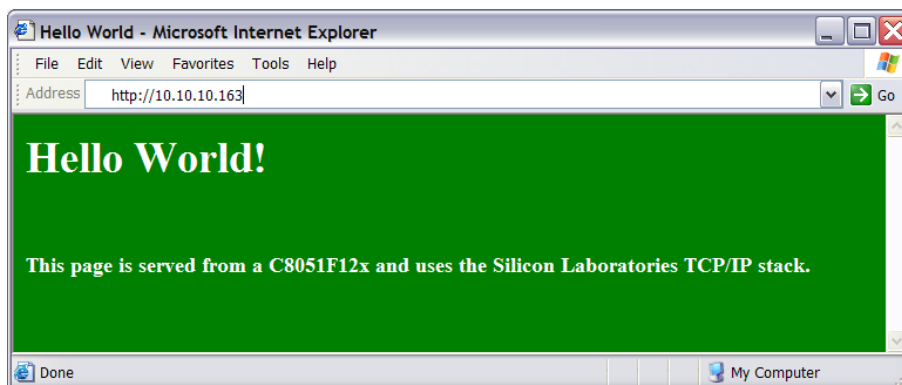

Figure 11. Embedded Web Server
2. Type in the IP address of the embedded system and press Enter. A web page stored inside the MCU should be displayed on the screen as shown in Figure 11.